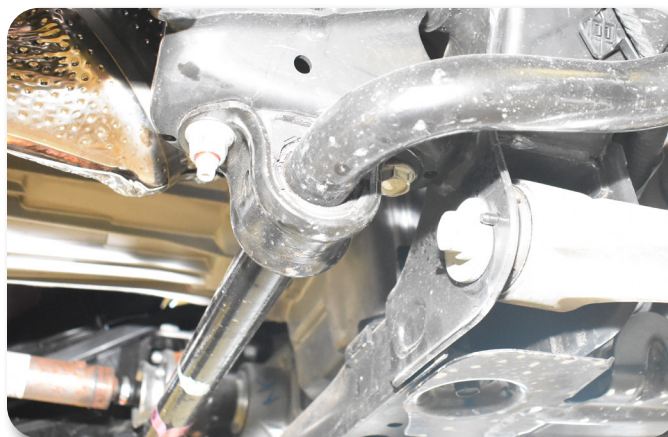

Figure 8
12. Repeat the installation on the back cam bolt now. Note that the nuts must both be on the inner side of the control arm pockets, same as the OE position. . The sway bar will be need to be removed from the frame in order to remove the rear cam bolt **Figure 8**.